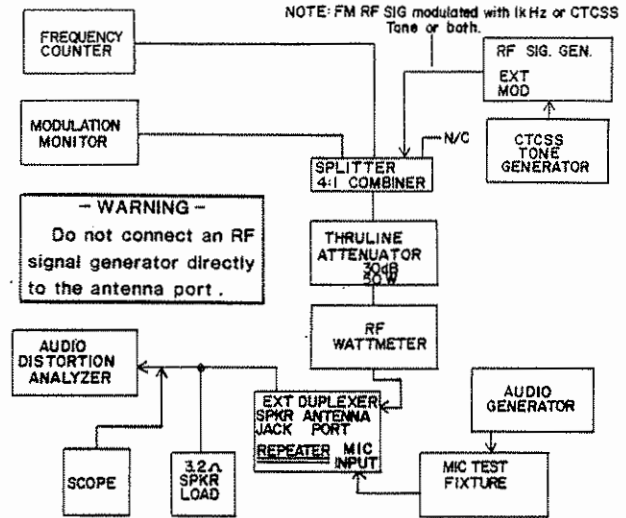
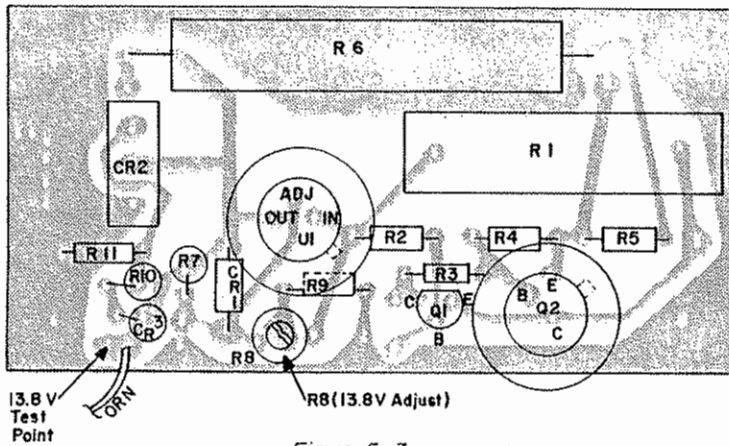

Figure 5-2
Figure 5-3
Figure 5-2 reflects the proper connections of the test equipment to the Desktop repeater.
NOTE: The signal generator settings must reflect the attenuation through the wattmeter/feedthrough power attenuator and signal splitter, so RF levels called out will appear at the antenna port of the duplexer (reference figure 5-2). See Figure 5-3 for the location of test points and tuning adjustments.
1. Connect test equipment as shown in figure 5-2 and preset the repeater controls as follows:
2. With the power supply voltage on, observe the DC Voltmeter at the 13.8 Volt test point (figure 5-3) and adjust R8 of the power supply module to 13.8 volts \pm .1 volts.